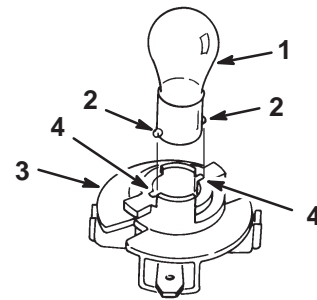

Figure 32
4. Push and rotate the bulb counterclockwise until it stops (approx. 1/4 turn) and remove the bulb from the bulb holder (Fig. 32).
1. The bulb has metal pins on the side of its base. Align the pins with the slots in the bulb holder and insert the base into the holder (Fig. 32). Push and rotate the bulb clockwise until it stops.